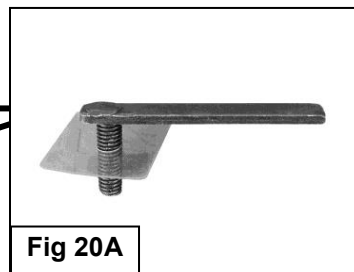
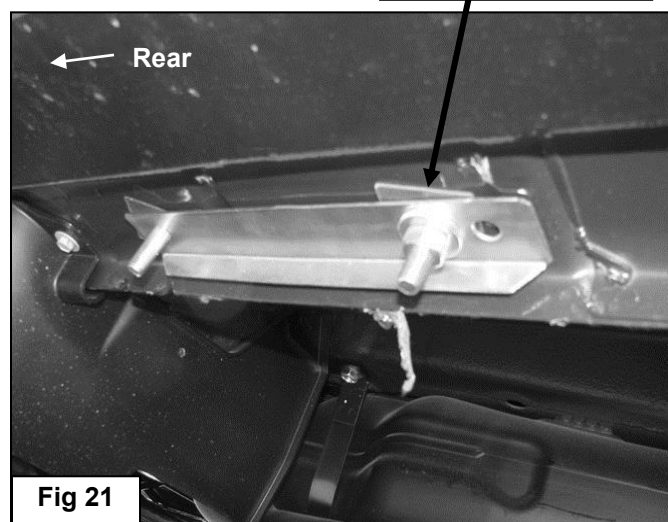

Fig 20A
Fig 21
15. Locate the last (2) round holes along the floor panel, **(Figure 18)**. Repeat **Steps 2—5** to install the (2) Bolt Plates and Lock Plate, **(Figures 20A & 20B)**. **NOTE:** Attach the Lock Plate to the front Bolt Plate only with (1) 10mm Flat Washer, (1) 10mm Lock Washer and (1) 10mm Hex Nut, **(Figure 21)**. Tighten the Hex Nut at this time.